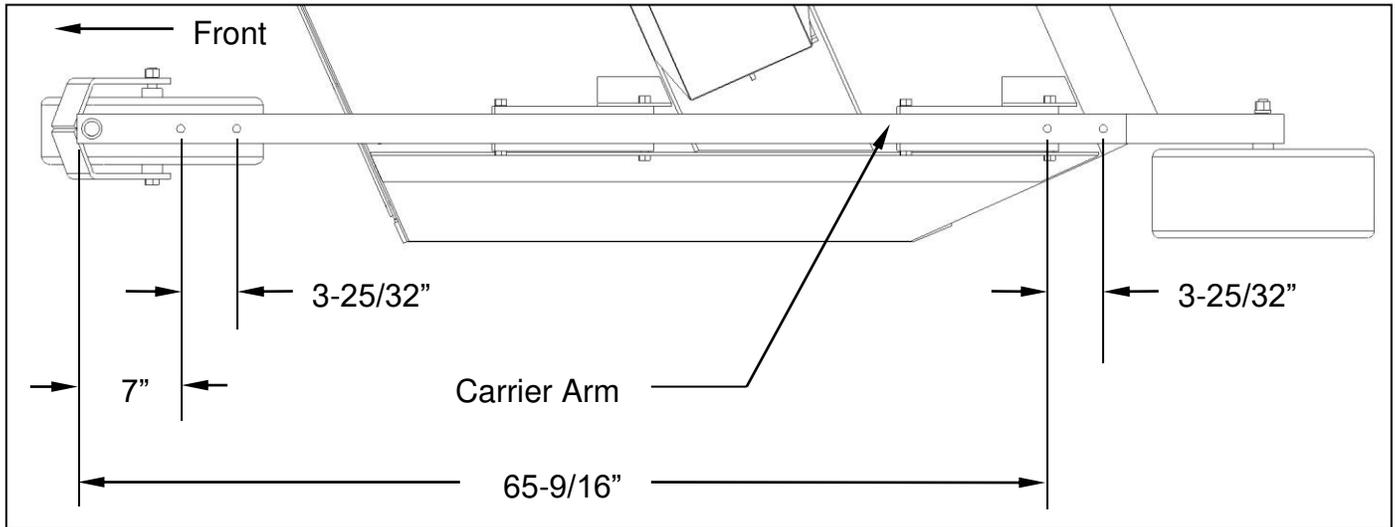
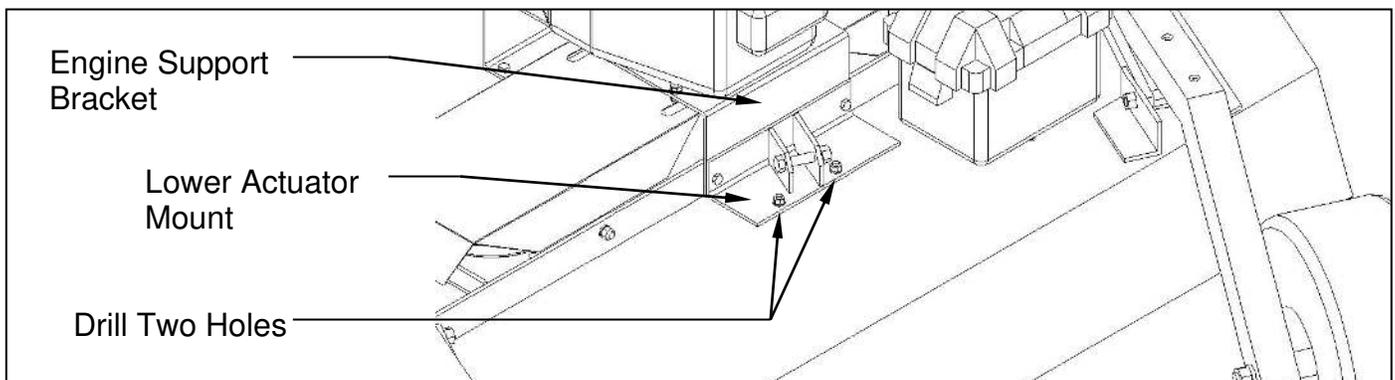

Figure 1. Carrier Arm Hole Location
Figure 2. Lower Actuator Mount Assembly
### A. CARRIER ARM PREPARATION (Refer to Figure 1.)
1. If your mower's carrier arms currently have the designated holes shown in Figure 1, refer to section B. If the electric lift kit and mower were purchased from the manufacturer at the same time and the lower actuator mount assembly is currently installed (See Figure 2), refer to section C. For carrier arm, rear wheel and tongue installation, refer to the main owner's manual.
**B. LOWER ACTUATOR MOUNT ASSEMBLY INSTALLATION (Refer to Figure 2.)**
2. Remove the two 5/16" x 3/4" bolts and two 5/16" x 1" bolts from the lower actuator mount assembly. Position the lower actuator mount assembly on the deck as shown in figure 2 and align the holes on the lower actuator mount, engine support bracket and deck frame. Insert the two 5/16" x 1" bolts and fasten securely with lock washers and nuts.